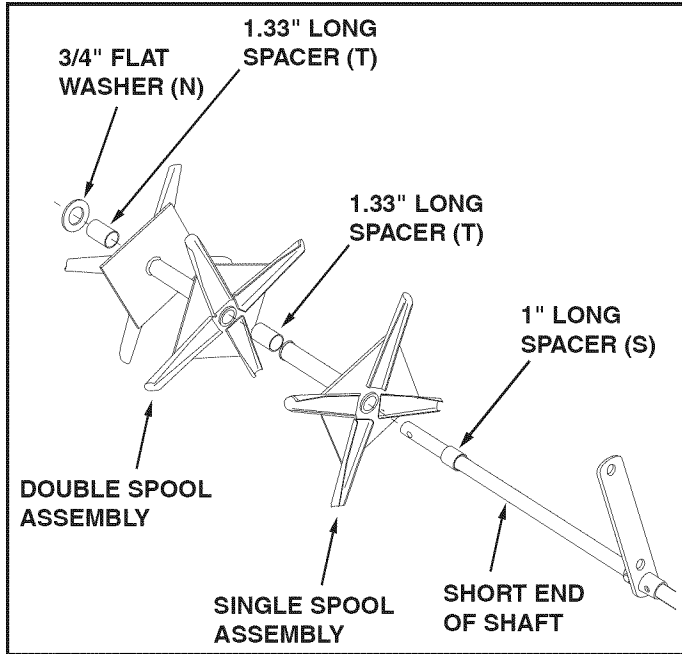

FIGURE 3
- Identify the short end of the shaft. Assemble a 1" long spacer (S), a single spool assembly, a 1.33" long spacer (T), a double spool assembly, another 1.33" long spacer (T) and a 3/4" flat washer (N) onto the **short end** of the shaft. See figure 3.